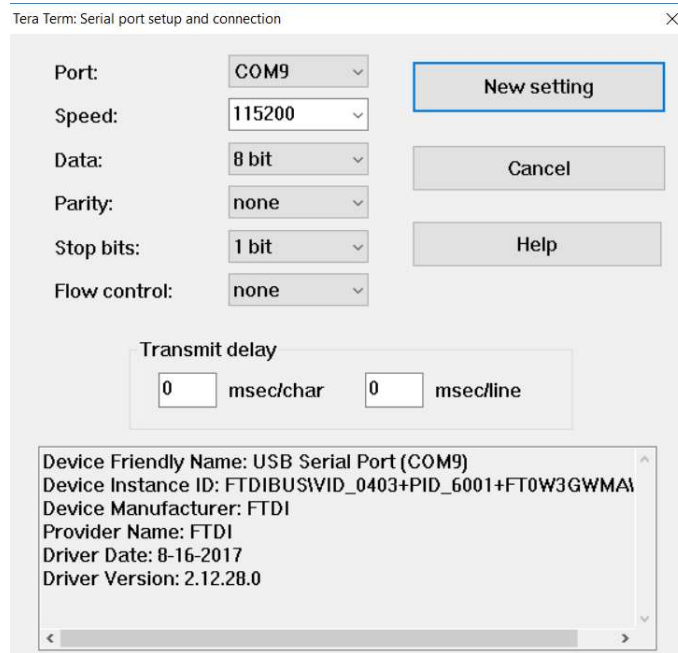

Figure 19. Serial port Settings
- The serial settings are as follows (Figure 19):